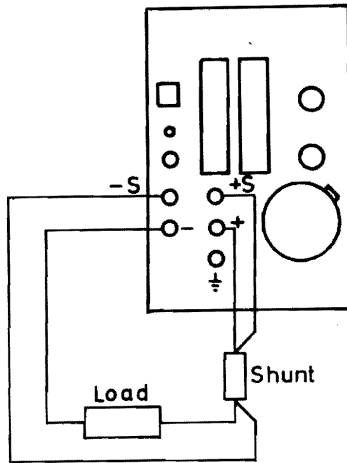

Figure 10
1. Connect shunt resistor according to figure 10. Resistor MUST be in "+" output cable.